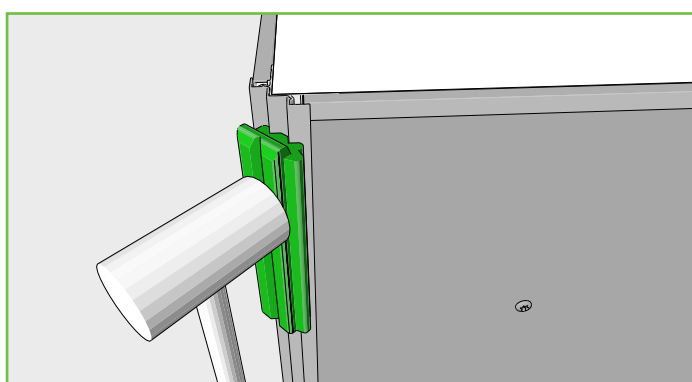

Figure 17.3
8. Align the top cap with the back plate. Place the EasyTrim®Hammer-Block® in the center of the top cap. Hit the HammerBlock® in 8" to 10" increments along the length of the trim from one end to the other. (Figure 17.3).